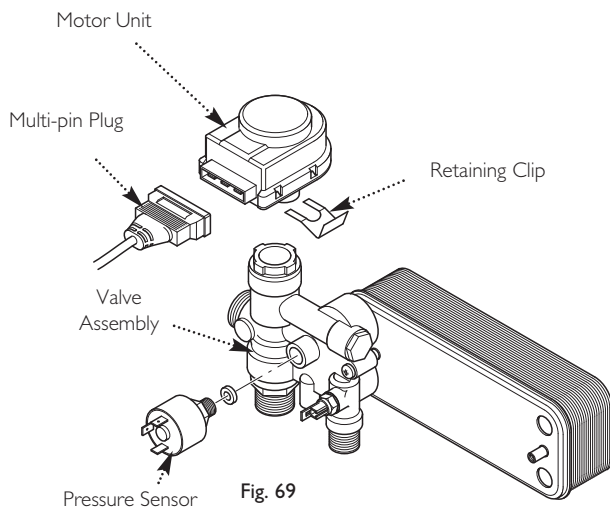

Fig. 69
13.20 Diverter Valve - Motor Unit & Assembly (Fig. 69)